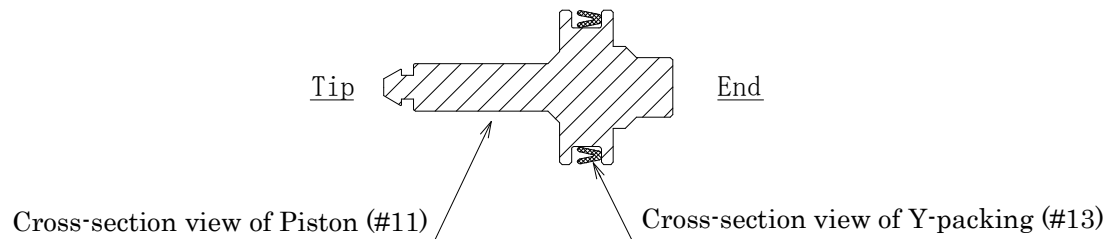

Fig. 3 Correct orientation of Y-packing
- Pay attention to the orientation of the Y-packing (#13) when installing it to the piston (#11). Fit the Y-packing with the groove side facing the tip of the piston as shown in Fig. 3.